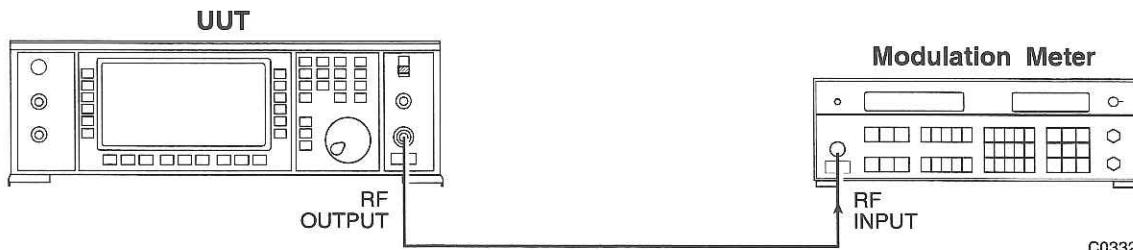

Fig. 5-2-6 Equipment configuration for AM DC offset
- (a) Connect the RF OUTPUT on the UUT to the RF input on the modulation meter. Equipment configuration is shown in Fig. 5-2-6.